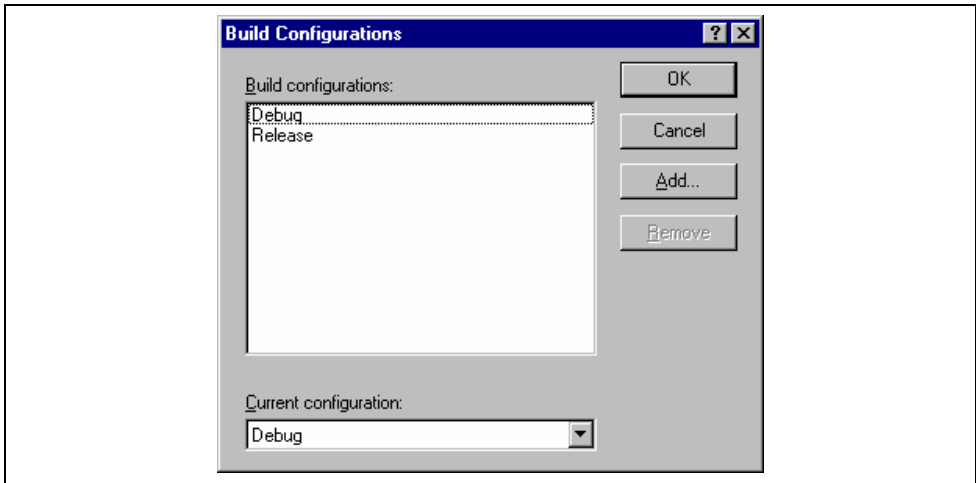

Figure 2.16: Build Configurations Dialog
1. Select **[Options->Build Configurations...]**. This will invoke the “Build Configurations” Dialog (figure 2.16).
1. Select **[Options->Build Configurations...]** to display the “Build Configurations” dialog (figure 2.16).
1. Select [**Options->Build Configurations...**] to display the “Build Configurations” dialog (figure 2.16).